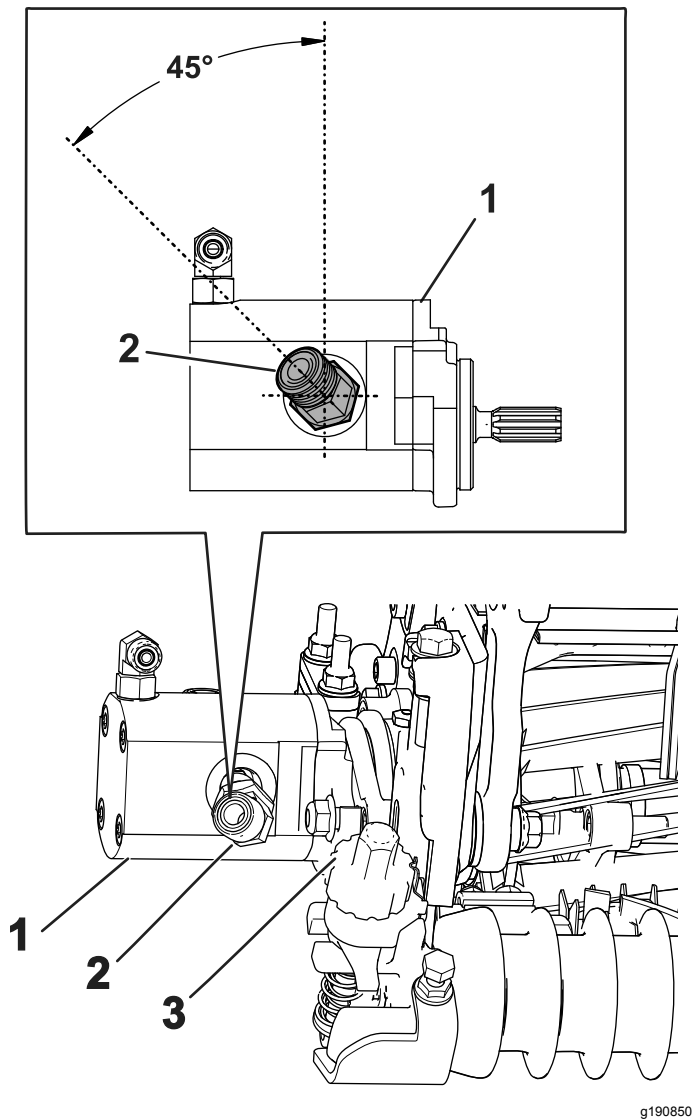

Figure 21
4. Install the new 45° fitting, positioning the fitting with the angle of the fitting as shown in Figure 21. Torque the fitting to 47 to 58 N·m (35 to 43 ft-lb).